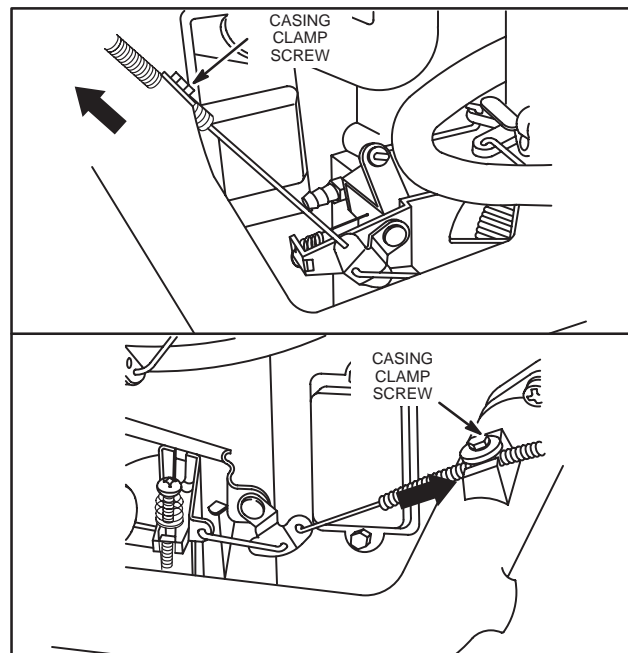

Fig. 6 – Remote Control – Twin II Vertical Crankshaft (Type Nos. 1100 & Above)
1. Loosen control casing clamp at governor control bracket, Fig. 6.